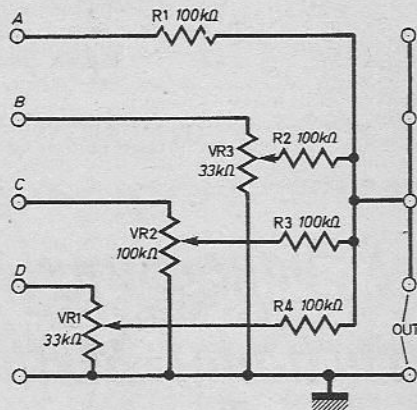

Fig. 1. Passive mixer circuit.
The circuit (Fig. 1) is really self-explanatory. Each of the three controlled inputs (B, C, and D) goes to a volume control. The outputs of the three volume controls are combined via 100kΩ resistors. There is also an uncontrolled input (A) for signals which come from a source which already has its own level control. (If required, more uncontrolled inputs can be added. All that is required is to provide each one with a 100kΩ resistor to the common output.)